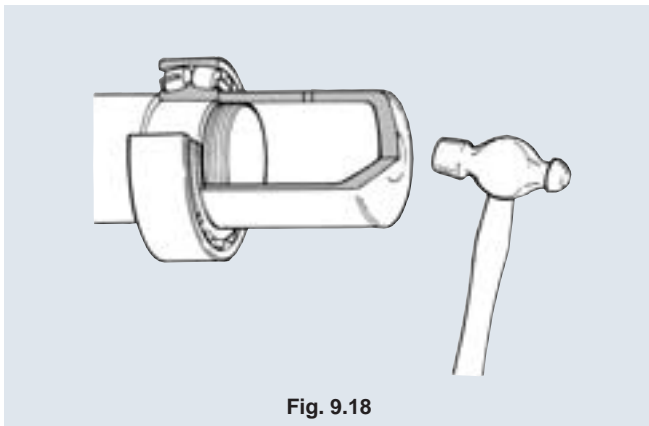

Fig. 9.18
- a. It is recommended that a small bearing of smaller tightening allowance be press-fitted by forcing a press-fitting jig onto the end face of inner ring. (See Fig. 9.18.)